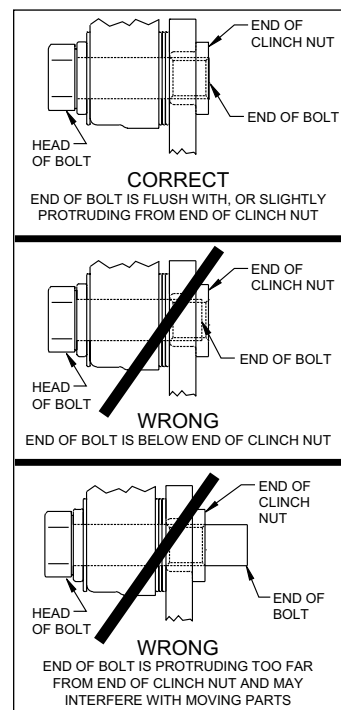

Figure 3. Clinch Nut Engagement Diagram
CAUTION: All mounting bolts must fully engage clinch nuts. Be sure to check that all bolts are either flush or protruding through flanged side of clinch nut after shimming, Figure 3.
- Install the o-ring (15) and the dust cap (14) onto the hub (5). Friction created by the o-ring (15) on the dust cap (14) keeps it from unscrewing on its own.
- NOTE:** Please reference the caution statement at the beginning of the assembly instructions. Mount the caliper (16) onto the caliper bracket (1) using washers (17), bolts (18) and caliper spacers (19). Finger tighten. View the rotor (9) through the top opening of the caliper (16). The rotor (9) should be aligned in the center of the caliper (16). If not, adjust the caliper (16) by using 0.032 inch thick shims (20) placed between the caliper mounting bracket (1) and the caliper spacer (19). Finger tighten and recheck alignment. Add as many shim washers (20) as necessary to achieve the correct alignment. **NOTE:** The end of the bolt must be flush with or slightly protruding from the head of the clinch nut. See Figure 3. Place spare shims (20) between washer and caliper mounting ear to achieve the proper mounting fastener configuration. Always use the same amount of shims on both the top and bottom caliper mounting bolts (18). Apply red Loctite® 271 to bolt threads (18) and torque to 40 ft-lb.
- Install the disc brake pads (21) and secure using cotter pin (22).